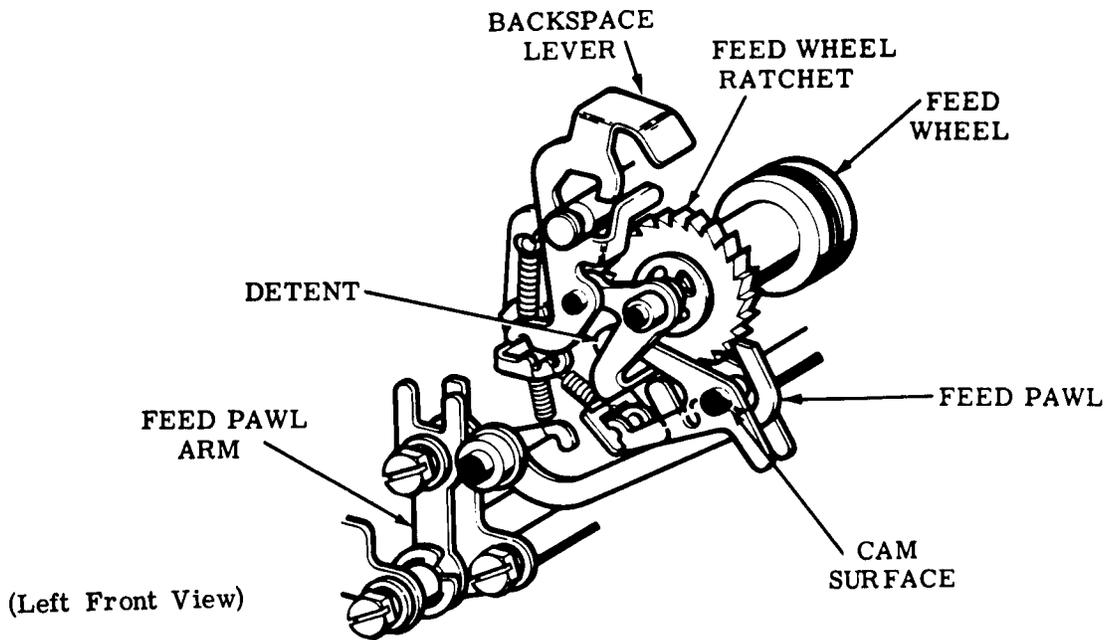

Figure 5 - Feed Wheel Mechanism (Tape Feed Mechanism)
4.15 As the stripper bail moves to the rear, the feed pawl engages a tooth on the feed wheel ratchet (Figure 5). When the stripper bail completes its travel to the rear, the feed wheel ratchet has indexed one full tooth and the tape is advanced 0.100 inch by the feed wheel.
4.18 The backspace lever (Figure 5), when depressed manually to its most downward position, backspaces the feed wheel ratchet one tooth space. This results in the tape being backspaced one full character. The backspace lever, through another lever, cams out the feed pawl during the backspace operation. This is a safety feature to prevent a jam if the operator accidentally operates the backspace mechanism while the tape punch is running.
6.02 Backspace - Depressing the backspace pushbutton causes the backspace lever (Figure 5) to engage a tooth on the back side of